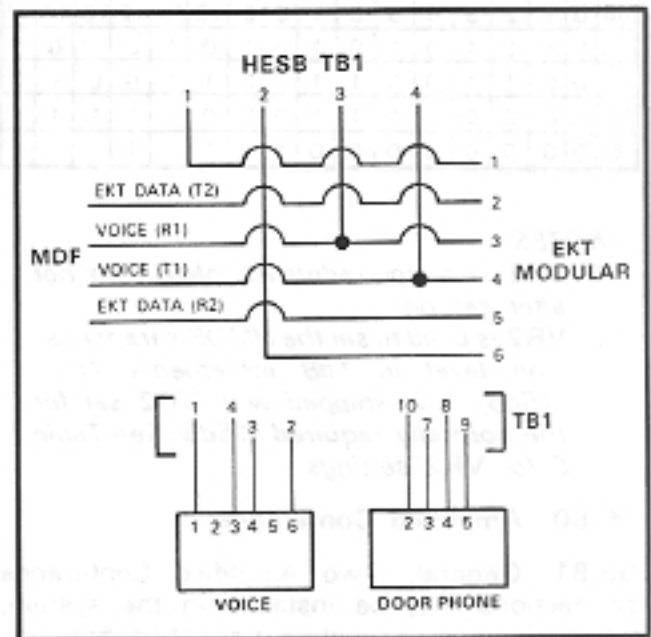

FIGURE 46—MODULAR-TO-TERMINAL STRIP INTERNAL CONNECTIONS
These connections can be made to the "VOICE" modular connector (instead of TB1), as shown in Figure 46.
b) If voltage does not appear across terminals 1 and 2 during ringing, check that the EKT wire connections have been made correctly (see Figure 46). (The wires to terminals 1 and 2 may be reversed.)